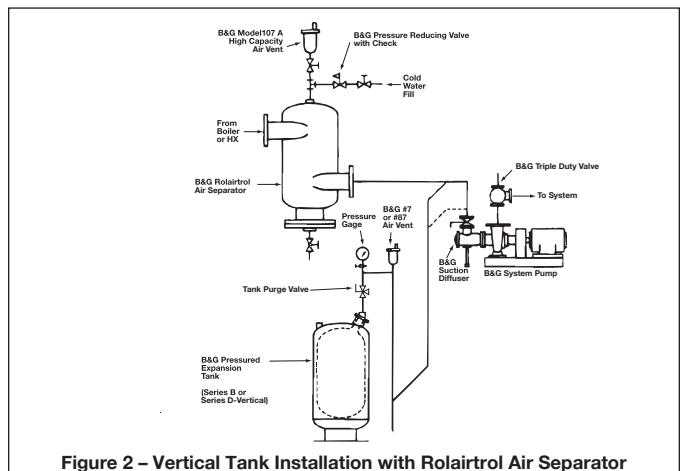

Figure 2 – Vertical Tank Installation with Rolairtrol Air Separator
1. Install Tank Purge Valve between the expansion tank and the system so that the drain valve is between the expansion tank and the isolation valve. (The union connection is installed on the tank). The Tank Purge Valve should be installed so that both the drain valve handle and the isolation valve handles are easy accessible. Refer to Figure 1. For typical installation drawings refer to Figure 2 and 3.
3. Figures 2 and 3 show where a tee would be located if multiple expansion tanks are installed.